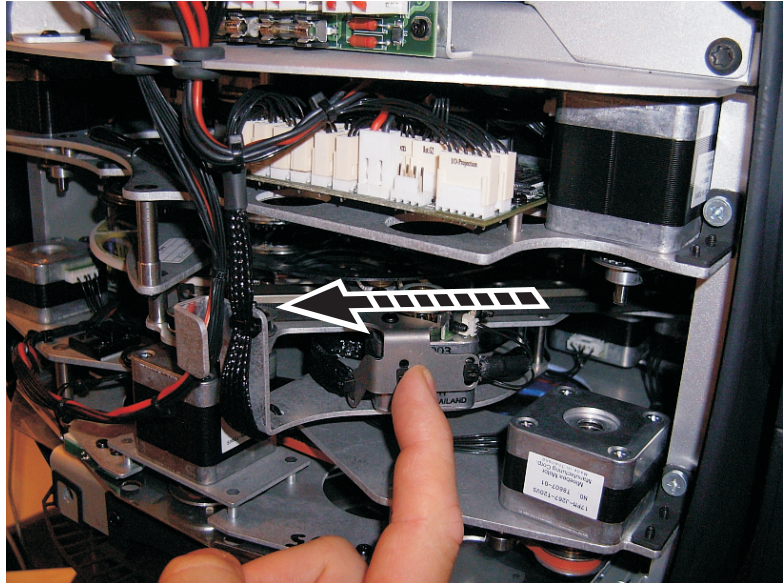

Figure 24: Animation wheel access
3. See Figure 24. Bring the animation wheel up to the top of the head by pulling its sliding car with a finger.
2. Move the gobo animation wheel as far as possible up towards the top of the head by pulling on its drive car as shown in Figure 24 on page 44. The animation wheel is glass. Do not apply pressure to it, or you may cause damage that is not covered by the product warranty.